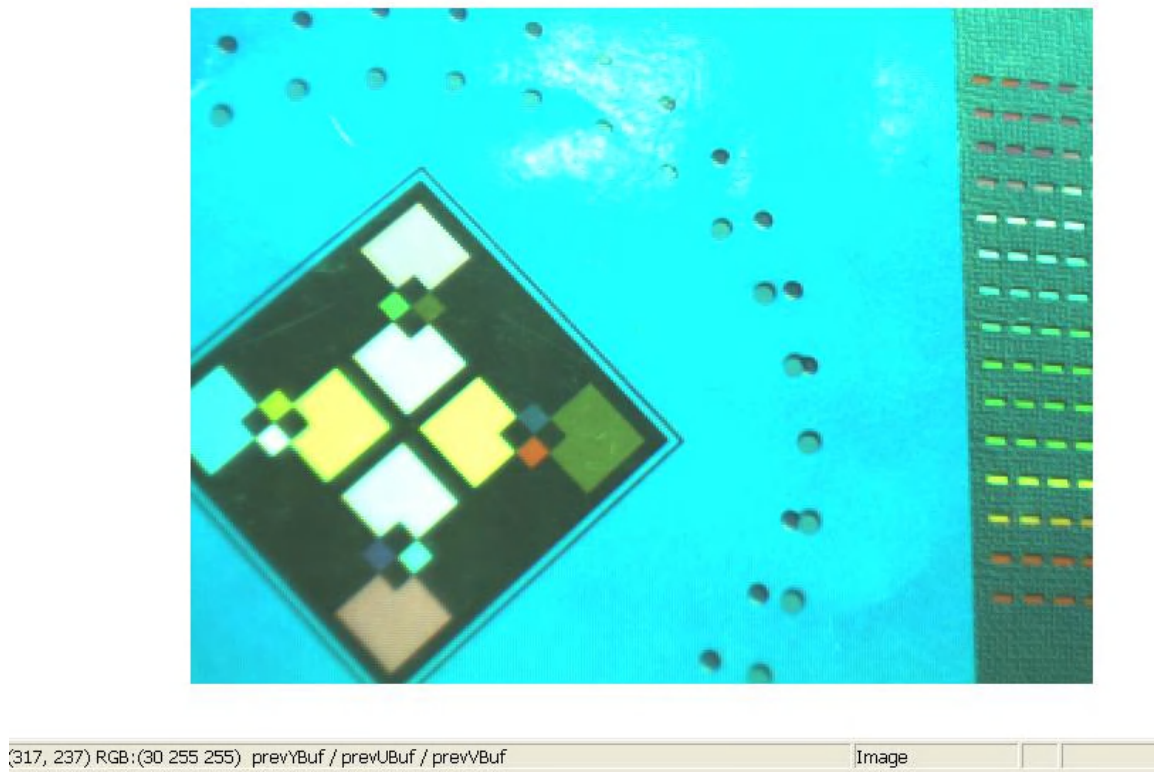

Figure 3. Output Image of the basic Example
10. Output Image of the Basic Example is shown in Figure 3